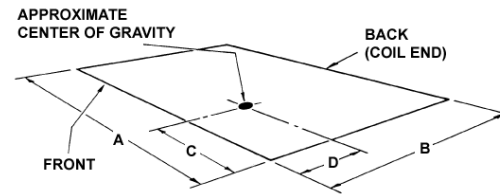

FIGURE 1 - CENTER OF GRAVITY
A minimum of two (2) beams are required to support each unit. The beams should: (1) Be positioned perpendicular to the roof joists. (2) Extend beyond the dimensions of the unit to distribute the load on the roof, (3) Be capable of adequately supporting the entire unit weight. Refer to Figure 1 and Table 1 for load distribution and weights.
A unit can also be supported by concrete piers. These piers should: (1) extend below the frost line, (2) be located under the unit's four corners and (3) be sized to carry the entire unit weight. Refer to Figure 1 and Table 1 for the center of gravity and unit weight.